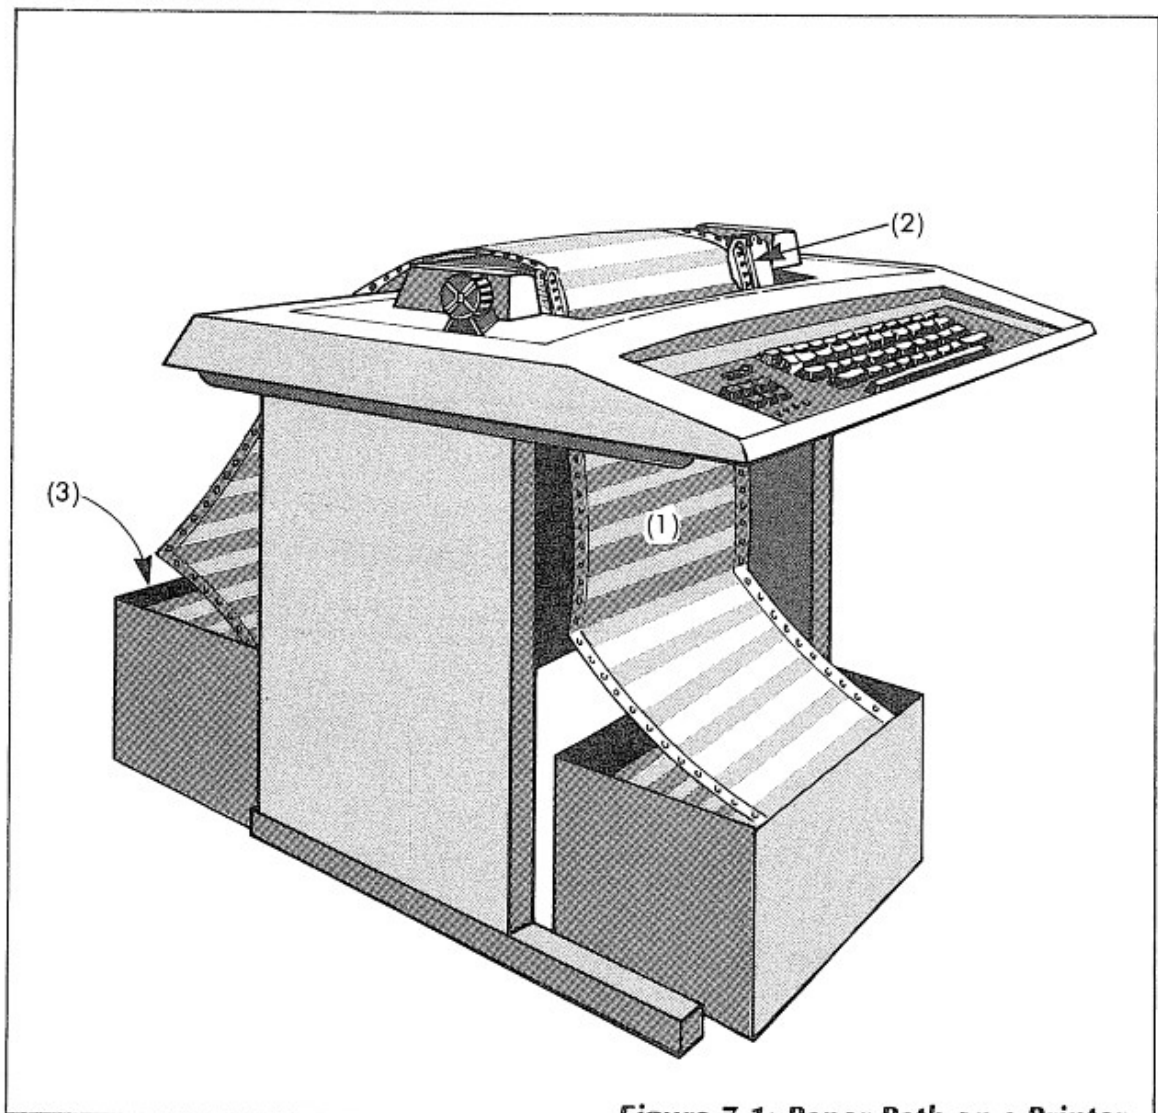

Figure 7.1: Paper Path on a Printer
A typical paper path on a printer is shown in Figure 7.1. The box holding the paper used by the printer is normally placed in front of or under the printer. The paper is fed vertically through the printer as shown in (1) in
Figure 7.1. Then the paper must be correctly positioned on the paper advance mechanism. On a simple printer, this mechanism may simply be a pressure roller similar to the one on a typewriter. On printers used for business, a forms tractor is always used to properly position the paper. The paper must be properly inserted on this forms tractor with the holes matching the corresponding sprockets. This is shown in (2) on Figure 7.1. Once the paper has gone through the printer, it accumulates behind the printer in a basket attachment or in a box. This is shown in (3) in Figure 7.1.